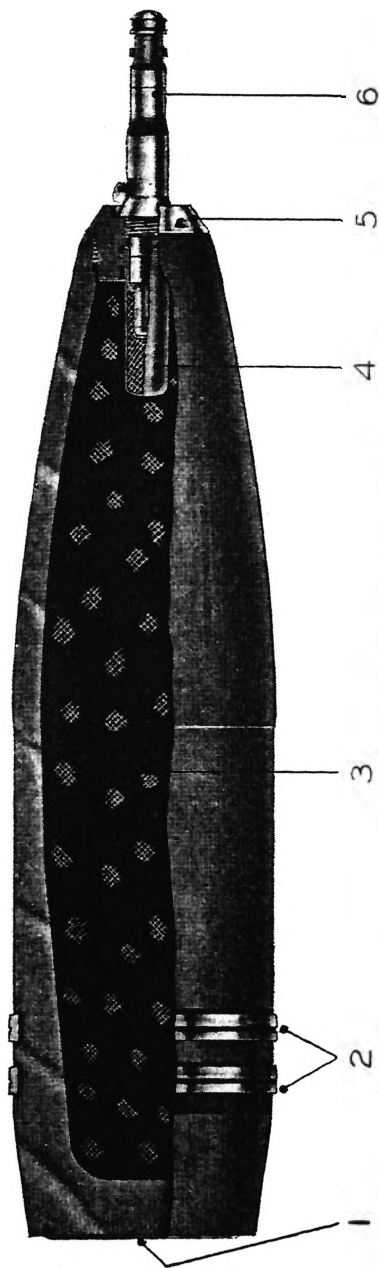

Fig. 4.--155-mm. high-explosive shell, ML. III
*c. Painting and marking.*—(1) All projectiles are painted, both as a means of ready identification and as a rust preventive.
(2) Projectiles are also stenciled to show the caliber, type of cannon used in, ammunition lot number, kind of filling, etc.
**8. Common steel or high-explosive shell, Mk. III.**—*a. Description.*—(1) The design of this shell is an adaptation of the French design and represents a modern stream-line projectile. Figure 4 shows this shell in detail. The extreme front end of the ogive is rather blunt; however, the radius of the ogive itself is nearly 11 calibers.1 This shell has a boat-tail base, tapered off at an angle of 8°. This combination of sharp nose and a tapered base adds to the efficiency in flight.